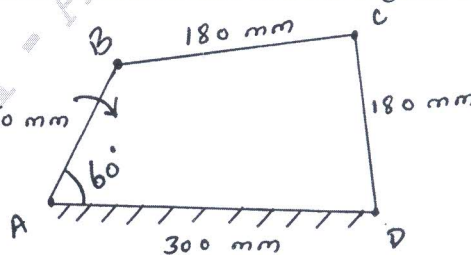

Fig Q5(b)
b. In a pin jointed four bar mechanism as shown in Fig Q5(b), AB = 150mm, BC = CD = 180mm and AD = 300mm. The angle of BAD = 60°. The crank AB rotates uniformly at 100rpm. Locate all the instantaneous center and find the angular velocity of the link BC.